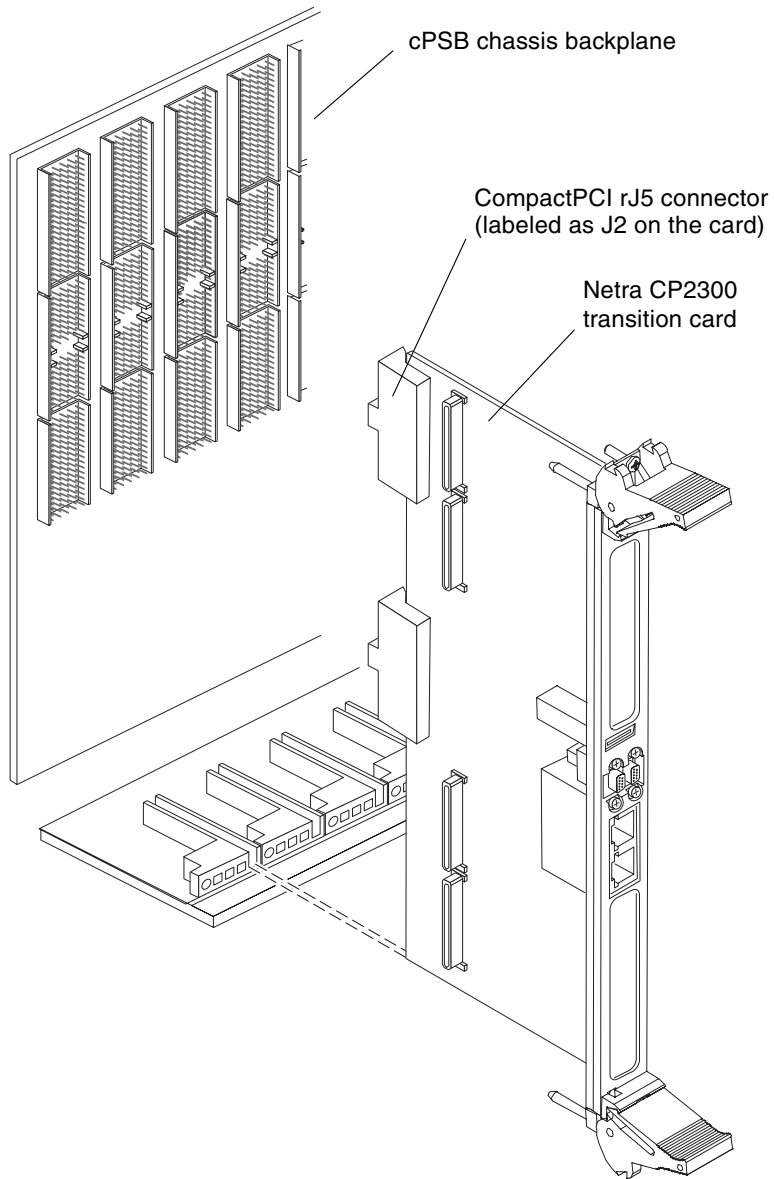

FIGURE 1-8 Align Transition Card During Installation in Backplane
- b. Engage the board edges with the chassis card guides and slide it into the chassis (FIGURE 1-8).**